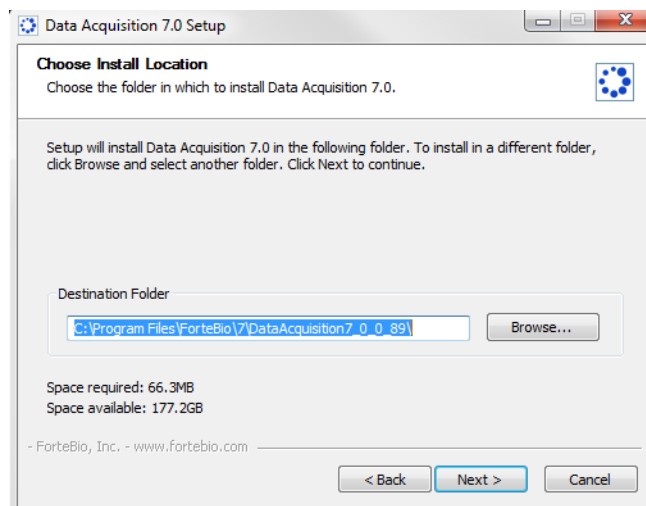

Figure B-2: Choose Install Location Dialog Box
3. Click **Next** to display the Choose Install Location dialog box (Figure B-2).